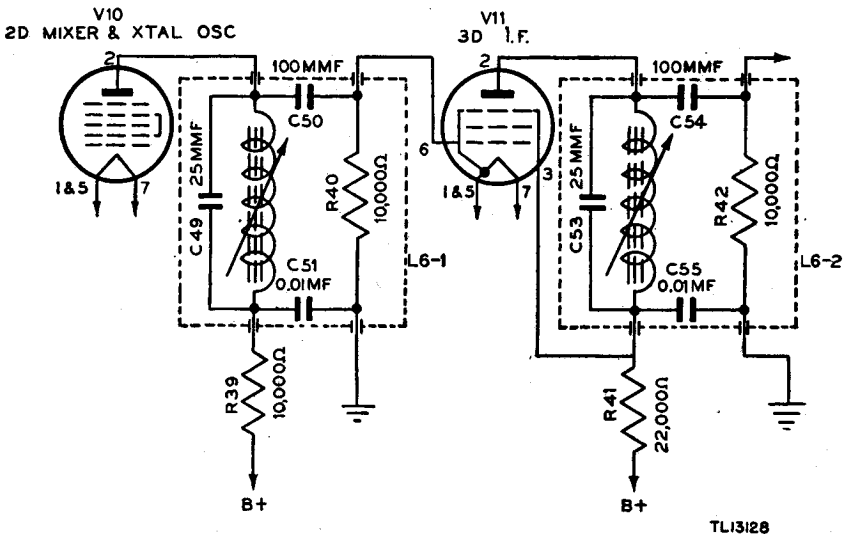

Figure 60. Third i-f amplifier, before circuit change.
(2) The grid-return resistor R40 of the third i-f amplifier tube V11 is connected to the positive filament leg, terminal No. 7, of the second mixer and oscillator tube V10. In this manner the grid bias of the third i-f amplifier tube V11 is reduced from a minimum of $1\frac{1}{2}$ volts, which increases the amplification of the stage. Figure 60 shows the circuit of the third i-f amplifier before the change was made. The above changes also apply to Order No. 29316-Phila-44-01.